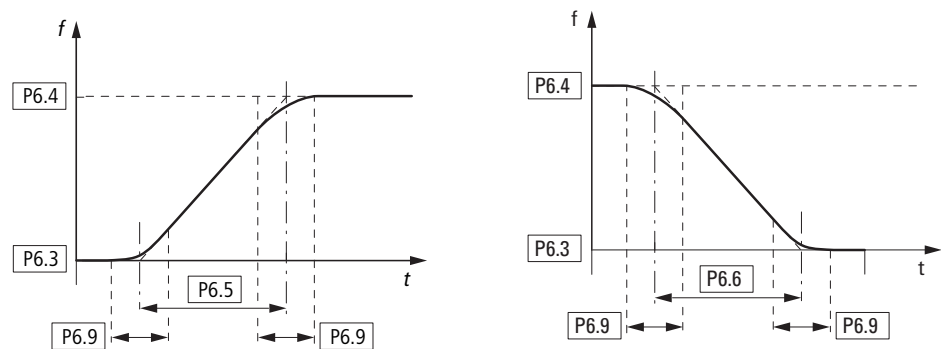

Figure 104:S-formed curve for acceleration and deceleration ramps
0.1 - 10.0 s	Time-graded transition to start and end of the acceleration ramp (P6.5) and deceleration ramp (P6.6). The time set here applies for both ramps (see Figure 104).